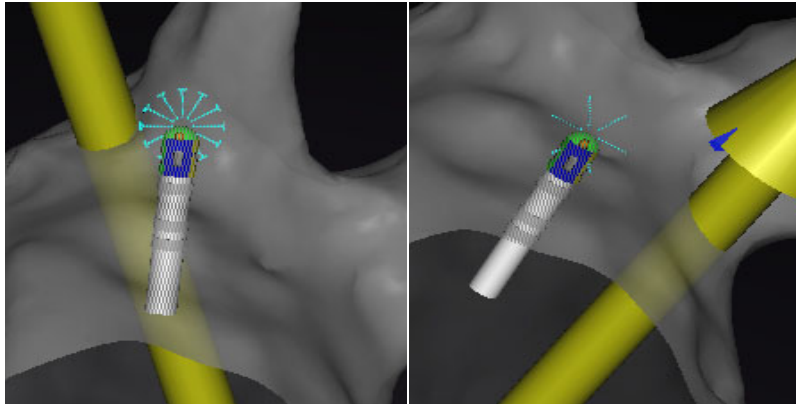

Figure 7. Starburst states: Optimal Contact (left); In Contact (right)
- Optimal Contact (**Figure 7, left**)
- In Contact (**Figure 7, right**)